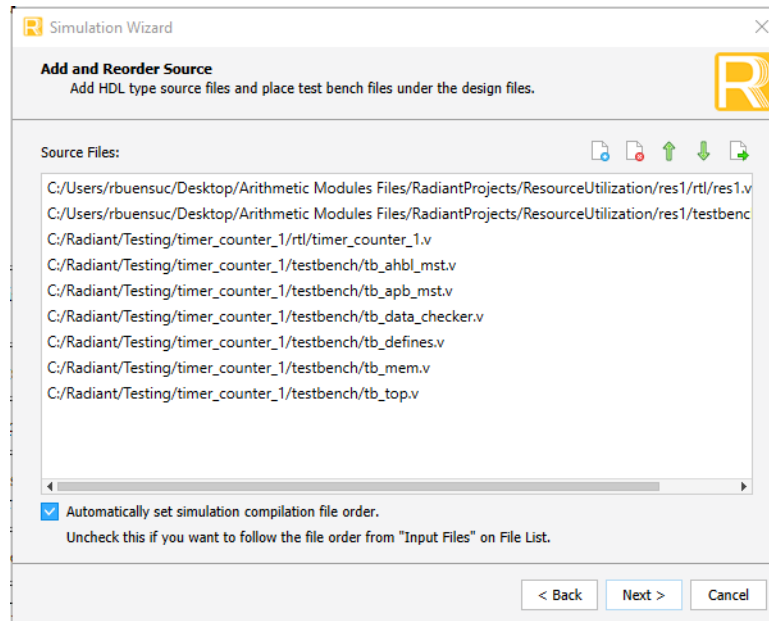

Figure 3.5. Adding and Reorder Source
2. Click **Next** to open the **Add and Reorder Source** window as shown in Figure 3.5.